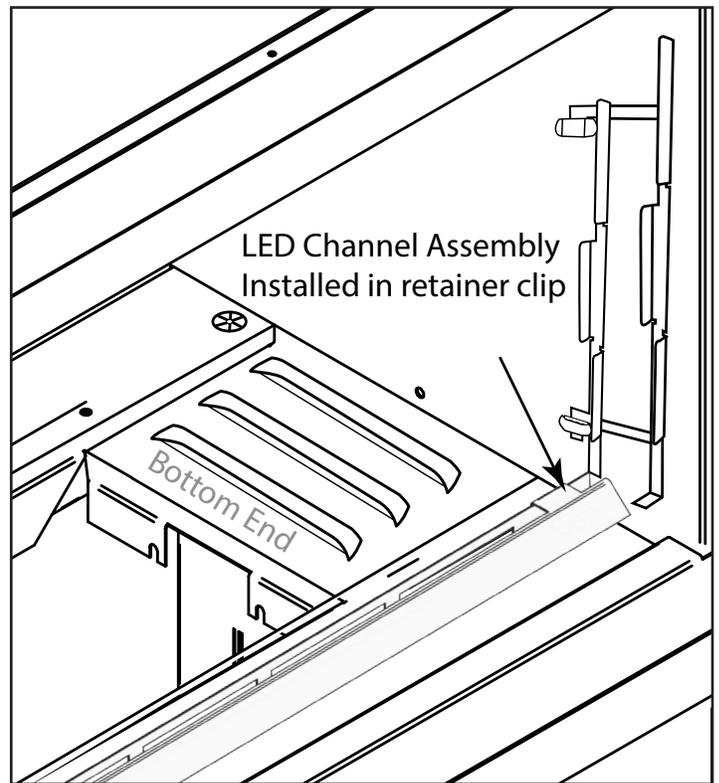

*Figure 20 - Shows LED right channel*
**Step 5:** Remove the LED right channel assembly from the carton (The front of the channel has a shield facing the front with the LED wire hanging on the right side). *See Figure 20 and Figure 21 for details. NOTE: If you are installing into a see-through fireplace you will install both right and left channels assemblies.*